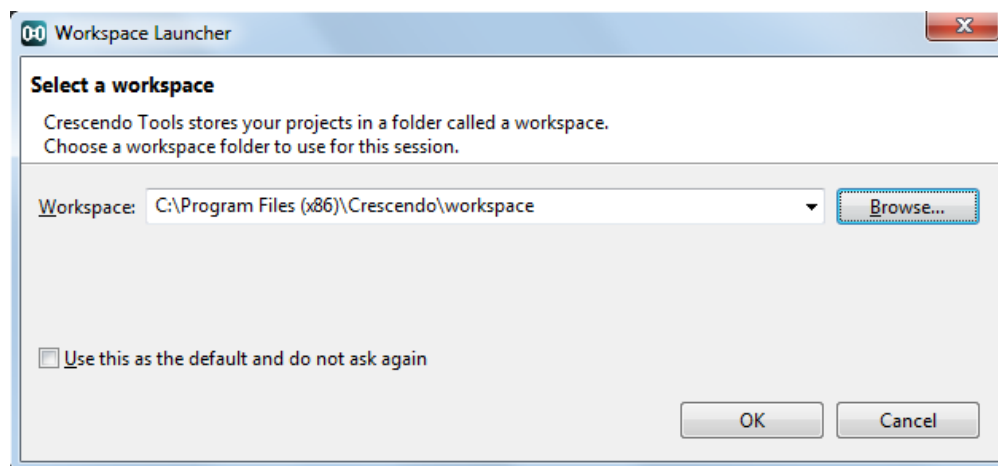

Figure 4.1: The Crescendo Workspace Location Screen.
- **Open Crescendo** from the **start menu**. You will see a splash screen when the program opens and a dialog prompting you to give a location for the workspace, as in Figure 4.1.